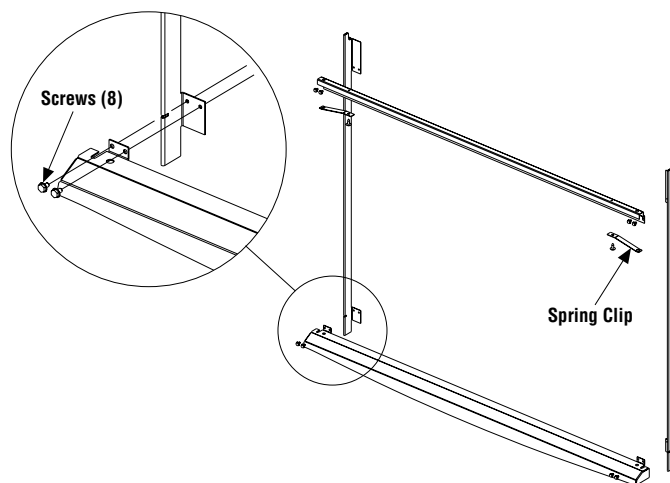

Figure 3
Assemble the four piece door frame with the eight (8) screws provided as shown in **Figure 3**. Two spring clips attach inside the upper track as illustrated.